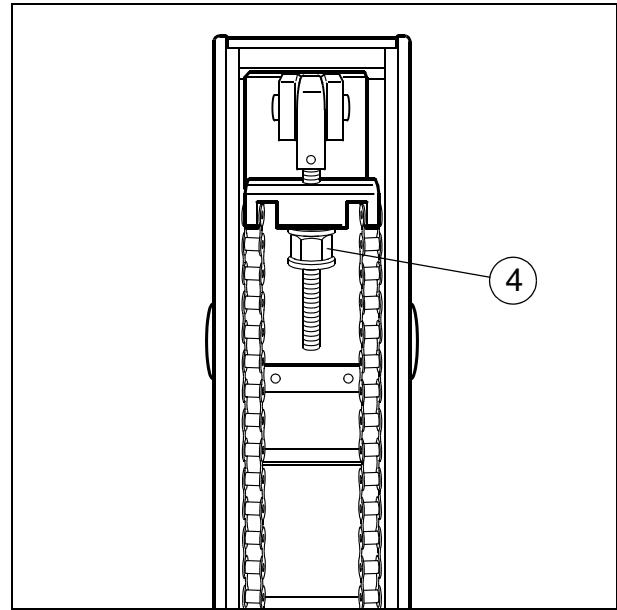

Fig. 2
- Tighten the screw (4/Fig. 2) with a 17 mm fork wrench.